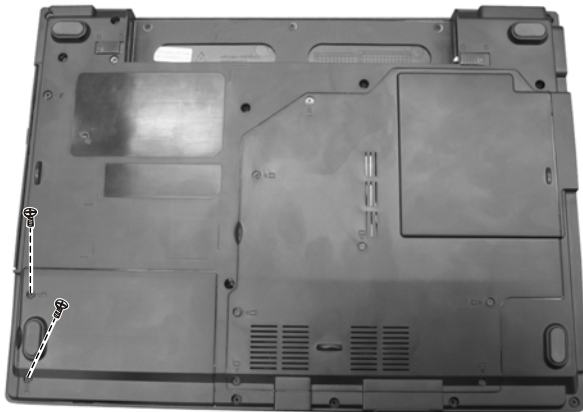

Figure 2-8 Remove the HDD compartment cover
2. Remove the two screws fastening the HDD compartment cover. (Figure 2-8)